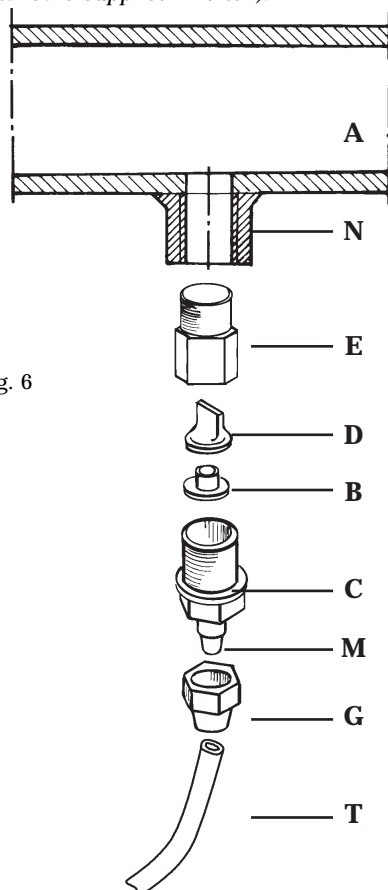

Fig. 6
- g. - Select the most appropriate injection point on a pipe of the plant to be treated and there fit a 3/8" female steel gas thread connector (similar to BSPm). This connector is not supplied with the pump. Screw the injection valve to the gas connector, inserting a gasket as shown in Fig. 6. Then connect the discharge hose to the conical connector on the injection valve and fix it with the supplied tube nut G. The injection valve also acts as no return valve by means of a cylinder sleeve (elastomer, standard supplied in Viton).
DIAGRAM Fig. 6